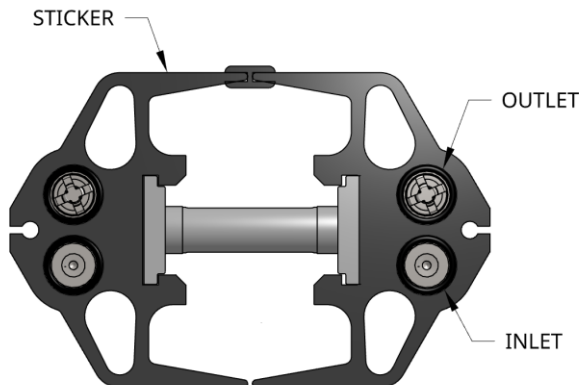

Figure 8
- Place manifold on top of heads. It may be necessary to shift heads around on plunger to have valves align with valve pockets on manifold. Be careful to not lose the white washers in the manifold during reassembly. See Figure 8.